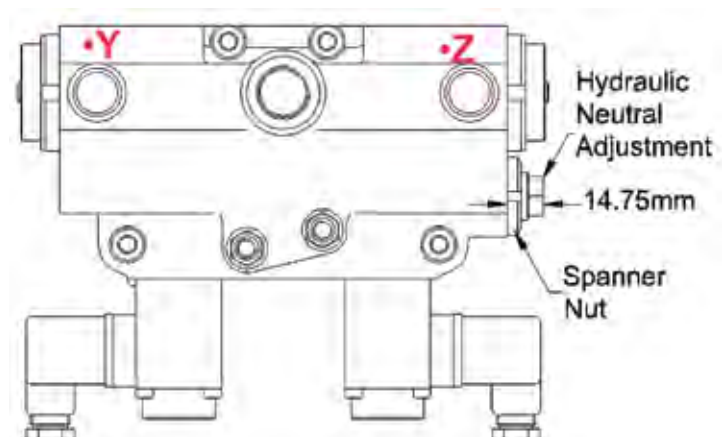

Fig. 7-2 'E' (Electro-hydraulic) Control
10. Using 16mm wrench and digital callipers adjust the hydraulic neutral adjustment 14.75 as illustrated in fig. 7-2.